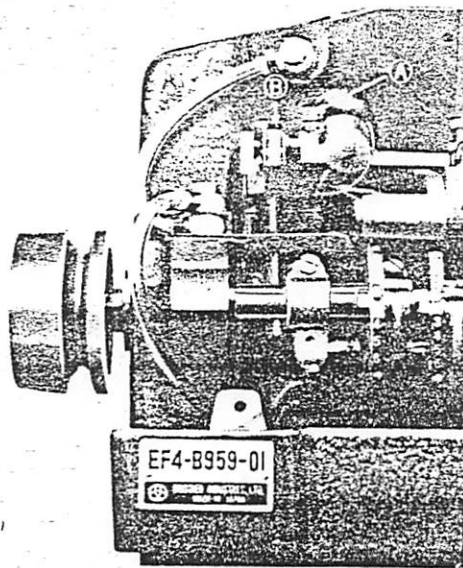

Fig. 27
Loosen the set screw (A) (Fig. 27) for the needle bar operating lever ball joint; and move the ball joint (B) (Fig. 27) in or out so that needle bar stroke is 25mm. Re-tighten the screw with wrench.